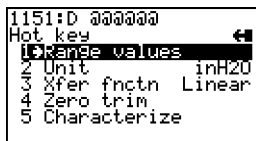

FIGURE 1-34. Sample Hot Key Menu.
**Figure 1-34** shows a typical Hot Key menu with four added options. The first option, Range values, is permanent and cannot be changed. It provides quick access to review or modify the device range values.